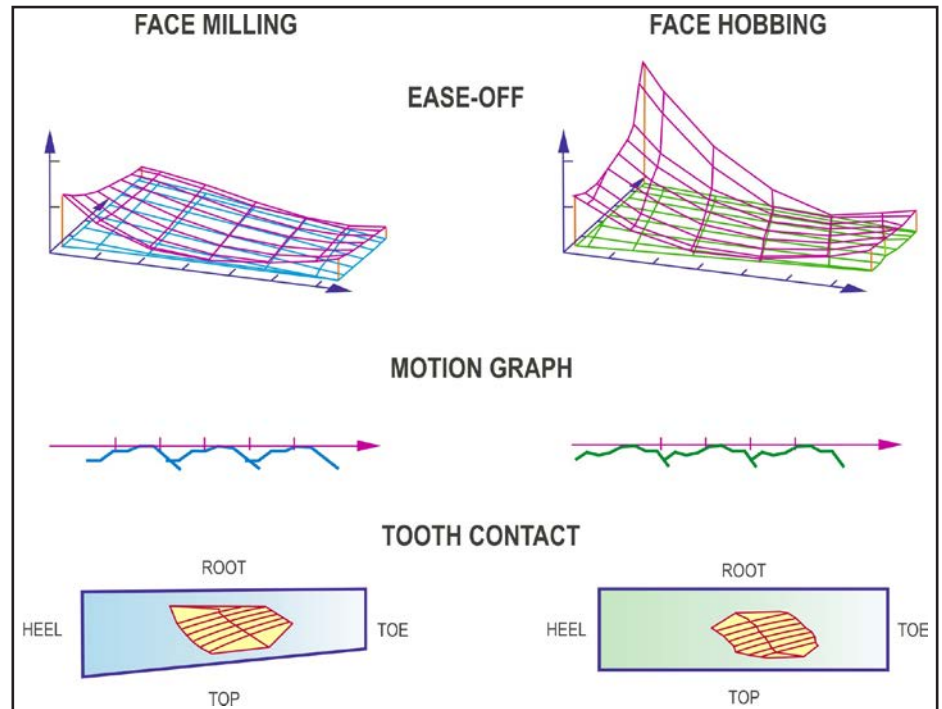

Figure 9 Analysis results of modern designs — left, face milling; right, face hobbing.
**Figure 9** Tribological BOD tests on bronze block with PEG, PEG+ WS2, and ester lubricants. (a) BOD tribometer configuration; (b) test parameters; (c) 3-D maps of wear tracks on bronze block — a with ester, b with PEG + WS2 lubricant.
Today's modern bevel gear design defines the cutter radii independent of the cutting method in order to achieve an optimal displacement characteristic. The shape and size of the contact pattern can be chosen nearly independent of the cutting method. Additional *UMC-Motions* and cutter blades with "blended Toprem" and "blended Flankrem" can be equally applied to face hobbled and face milled gearsets (Ref. 7). Figure 9 (left) shows the exotic-appearing Ease-Off of a face milled bevel gear pair. The contact pattern, which only a couple of years back was typical only for face hobbled gearsets, has been calculated using *UMC-Motions*. The complex Ease-Off function of the face milled gearset is realized with excellent repeatability after heat treatment, by grinding.
Ease-Off and contact pattern of the face hobbled bevel gear pair (Fig. 9, right) have also been designed using *UMC-Motions*; cutter blades with blended Toprem were also applied. Modern